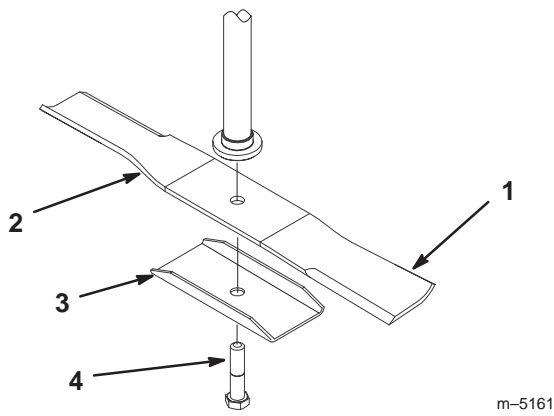
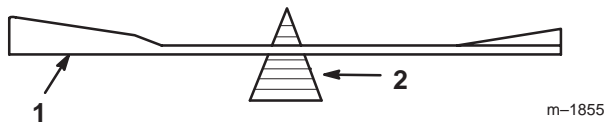

Figure 36
Figure 38
Hold the blade end using a rag or thickly-padded glove. Remove the blade bolt, stiffener, and blade from the spindle shaft (Fig. 36).
2. Check the balance of the blade by putting it on a blade balancer (Fig. 38). If the blade stays in a horizontal position, the blade is balanced and can be used. If the blade is not balanced, file some metal off the end of the sail area only (Fig. 36). Repeat this procedure until the blade is balanced.
1. Install the blade onto the spindle shaft (Fig. 36).
2. Install the stiffener and blade bolt (Fig. 36). Torque the blade bolt to 80–100 ft.-lb. (108–136 N·m).